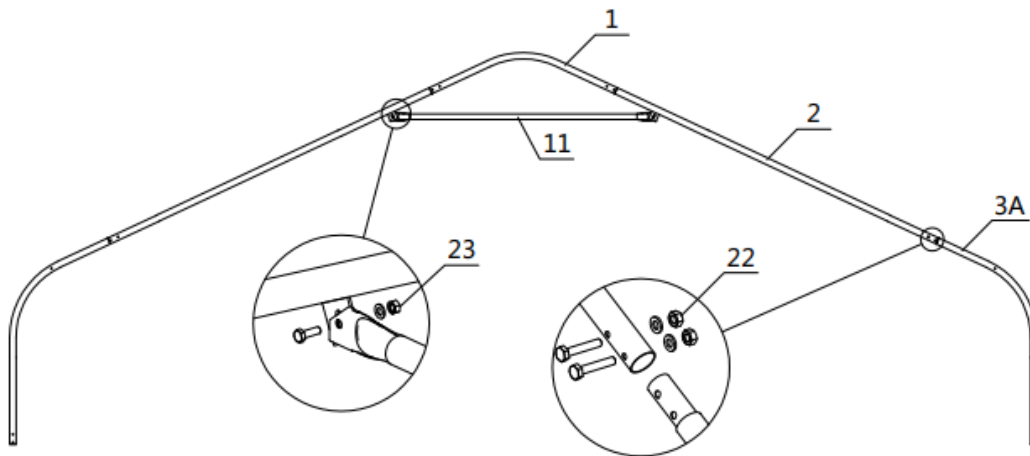

Figure 2
- The building includes 24 trusses : (2) front and rear truss, and (22) middle trusses.
- Parts used to install the front and rear truss in this step (refer to figure 2) :